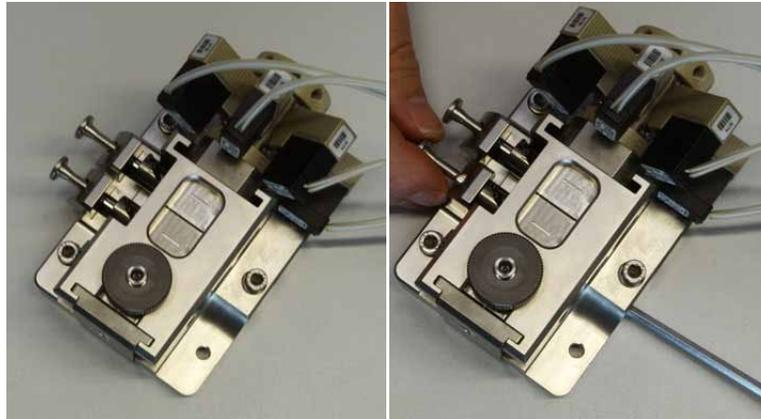

Fig. 50: Installing the holding hooks
- Carefully pre-align the assembled holding hook with the main body of the pump head by sliding the holding hook with the piston and guide bushing into the main body. Do not push the piston into the seal yet (→ Fig. 50).